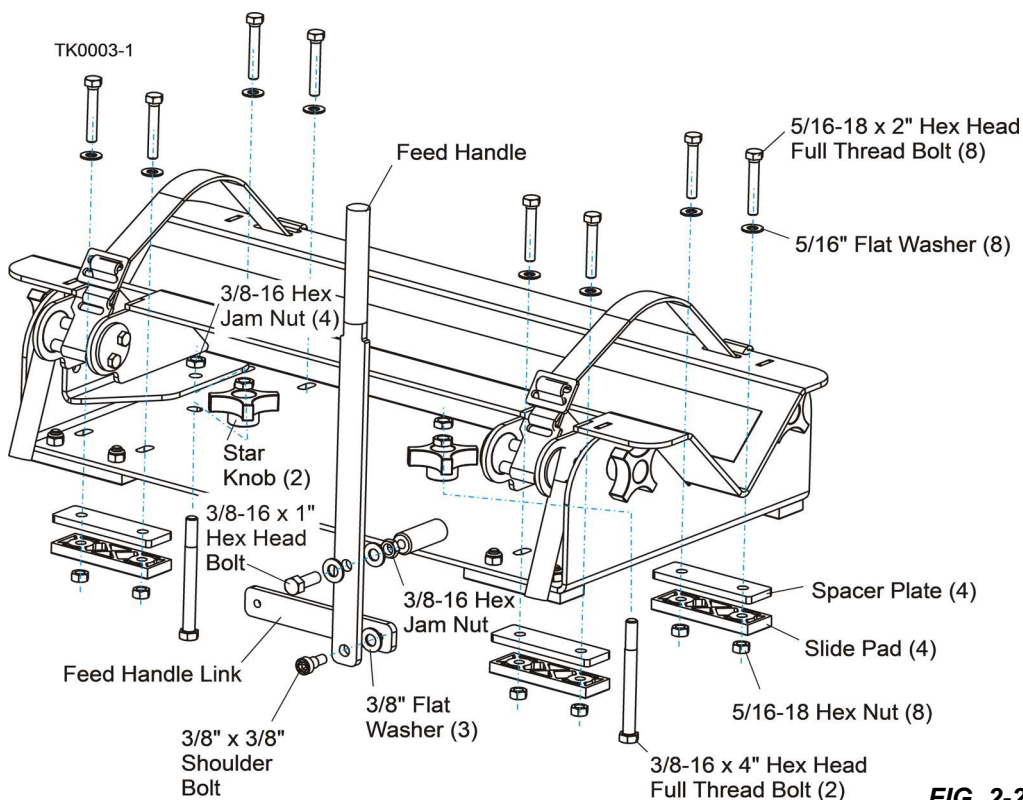

FIG. 2-2
1. Install four slide pads and spacer plates to the bottom of the carriage frame. **See Fig. 2-2.**